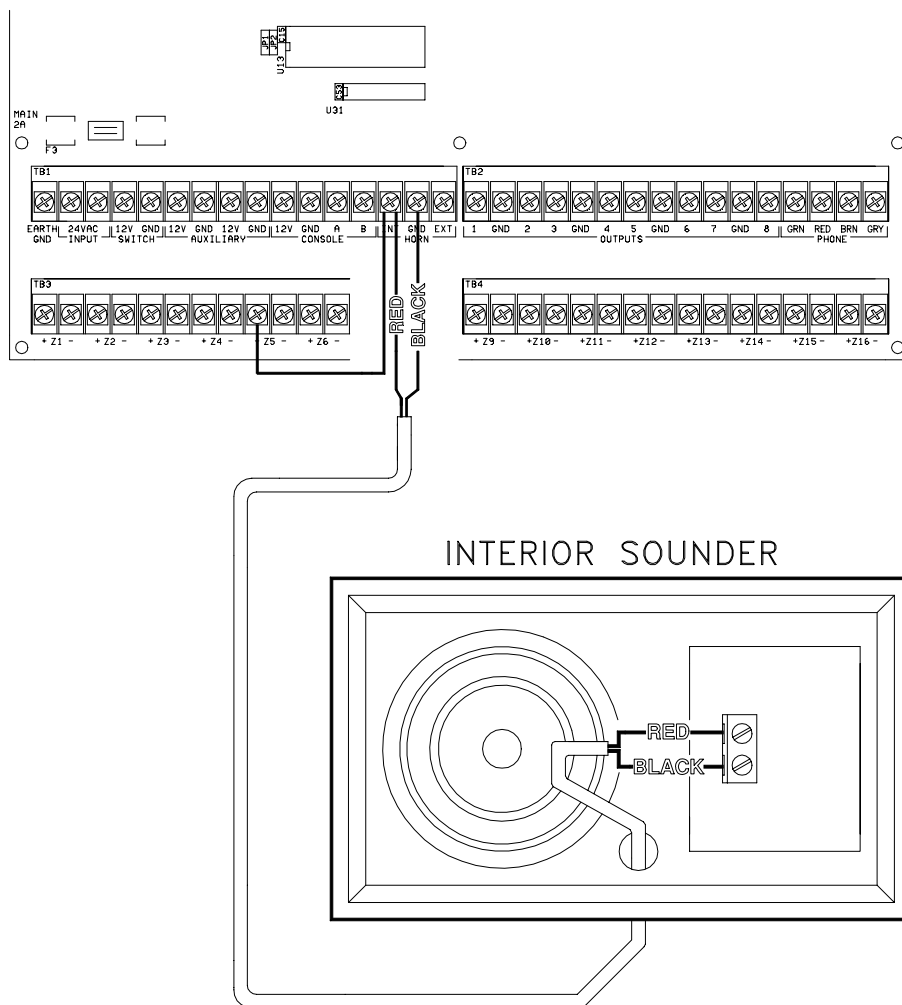

Figure 6 - Interior Sounder Connections
3. Refer to **FIGURE 6 (INTERIOR SOUNDER CONNECTION)** for connections.